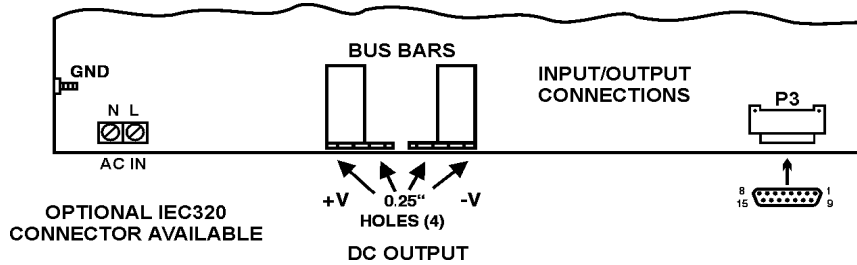

Figure 5. Rear Rack Input & Output Connections
- 13.1 **Input Voltage.** The TMH Series modules operate off worldwide AC input voltages within the range of 85 to 264 VAC at 47 to 63 Hz. There are two AC input versions of the racks to choose from. The standard model has a two-position terminal block for a conduit cable connection. An optional version, Option B, has an IEC320 connector input. For complete details see Section 18.2 and Figure 5.
- 13.2 **Output Connection.** The 24V, 28V or 48V output is provided on two copper bus bars. Each bus bar has two 1/4-inch holes. Connection should be made by means of 1/4-inch diameter bolts. For complete details see Section 18.3 and Figure 5. Both positive and negative outputs are floating.
- 18.2 AC Input Connections.** There are two AC input versions of the TMH racks. See Figure 5. The standard version is for a conduit cable connection to a two-terminal barrier strip. Ground connection is made to the chassis by means of the no. 8-32 stud shown in the diagram. The optional version (Option B) uses an IEC320 connector for a power cord.
- 18.3 DC Output Connections.** The DC output connections are shown in Figure 5. The positive and negative output connections are made to the copper bus bars as shown. The left bar is positive and the right one negative. Each bar has two $\frac{1}{4}$ - inch holes. Connection to the bus bars should be made by means of $\frac{1}{4}$ - inch bolts. The output wires should be sized in accordance with the load current and length of conductor.